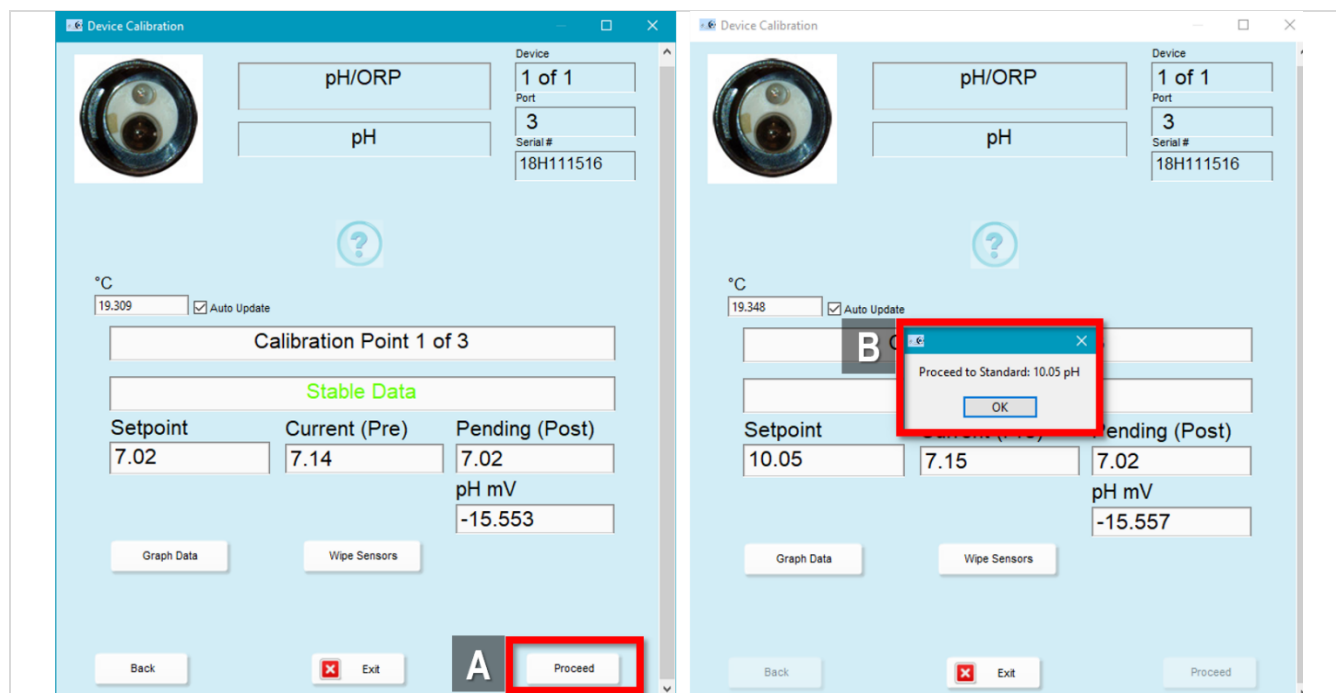

Figure 121. Click “Proceed” and “OK” in the Pop-up Window to Proceed to the next Calibration Point
**STEP 5** | Once the data is stable, click **“Apply”** in the bottom right hand corner of the Device Calibration window, and then click **“Proceed”** (Figure 121). Wait to click **“OK”** until the next step is complete.
**STEP 6** | For Calibration Point 2 of 3, repeat the same actions as the previous step. Triple rinse with each standard between each step. It is OK to use expired buffer solutions for the triple rinse. Do not use expired solutions for the calibration step. Click “OK” in the Proceed to Standard pop-up window (Figure 121).